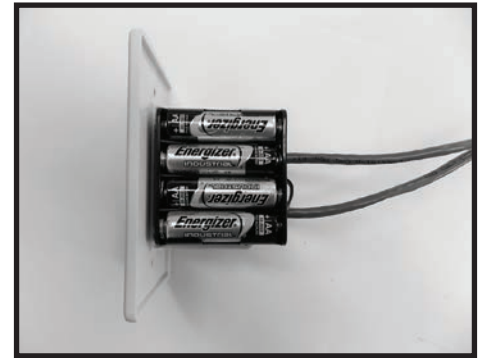

Figure 29: Wall switch - battery side.
9. Insert the 4 supplied "AA" batteries into the battery pack of the wall switch (Figure 29)